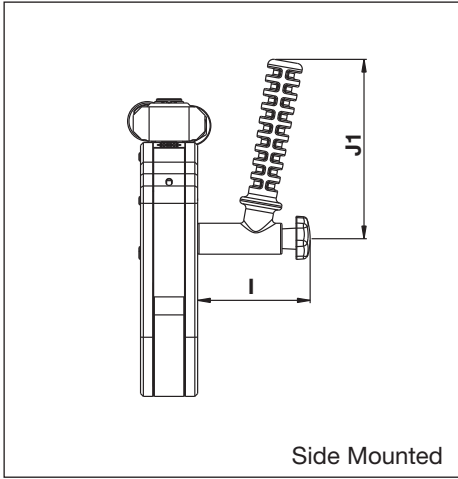

Fig. 25
6.1.3 Dimensions, SWH Series Angled Positioning Handle (Fig. 25)